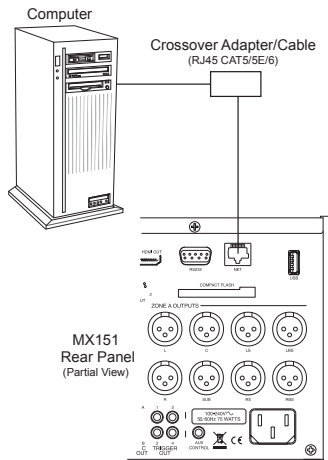

Figure 2
*Note: A single computer may be connected to the MX151 NET RJ45 Connection by using a RJ45 CAT5/5E/6 Crossover Adapter/Cable and RJ45 CAT5/5E/6 cable(s). Refer to figure 2.*